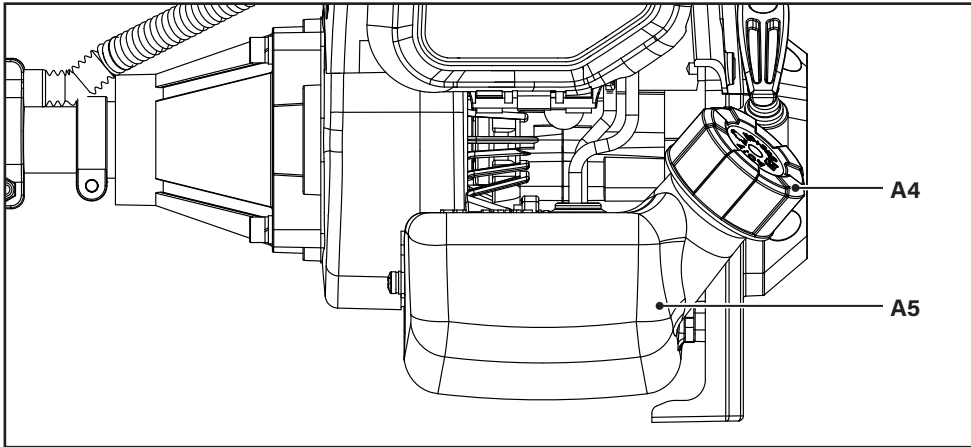

Fig. 11
4. Unscrew the fuel tank cap (A4) (Fig. 11).